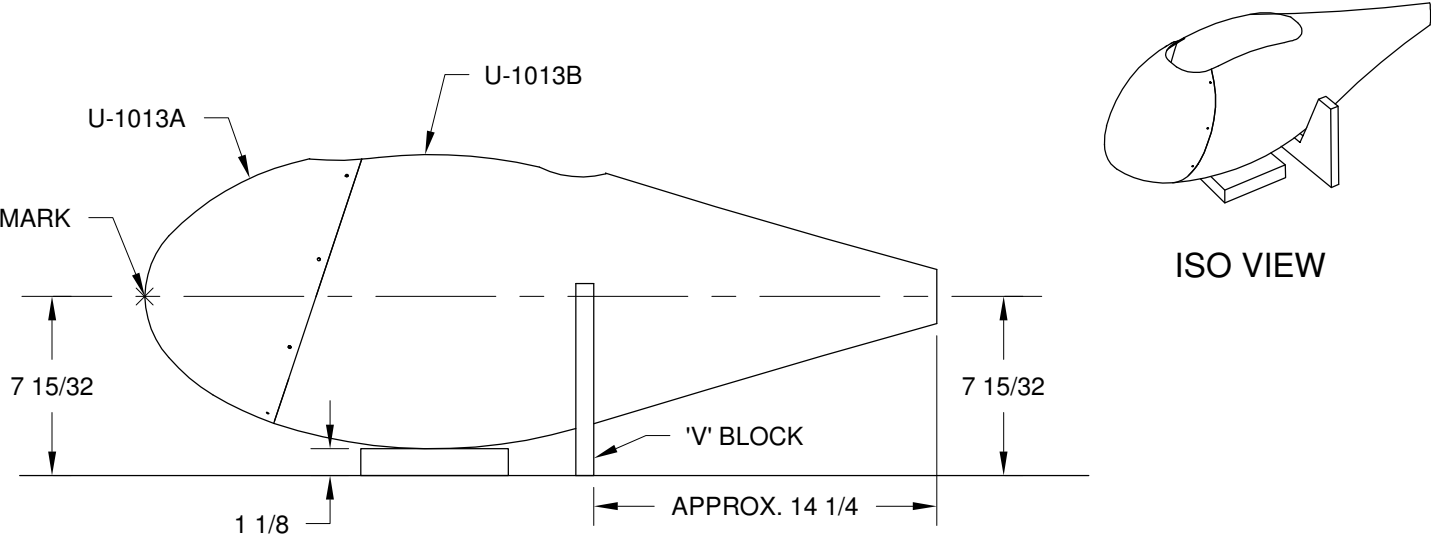

FIGURE 2: MARK FAIRING CENTERLINE AT ITS NOSE
Step 2: Tape the U-1013A and B Wheel Fairing halves together and place them into the "V" block with the wheel opening facing upward as shown in the Iso View of Figure 2. Rotate the assembled fairing about its long axis until the vertical centerline drawn at the back of the wheel fairing rear is vertical and check it with a square.